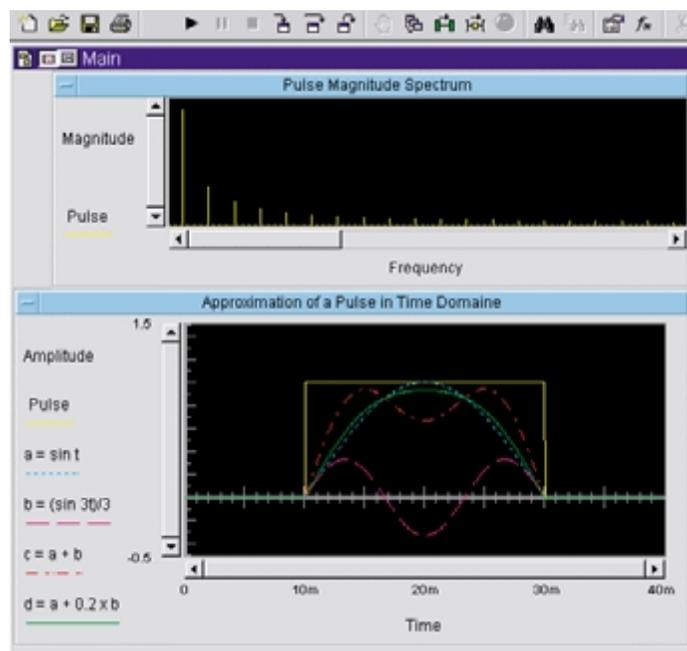

Figure 3: Frequency and time domain representation of a pulse
Formulae (1) and (2) also apply to a single pulse as given in figure 3. In the frequency domain, the amplitude of the distinct frequencies of the series above are easily detectable as discrete lines in the signal's magnitude-spectrum, see e.g. figure 3.